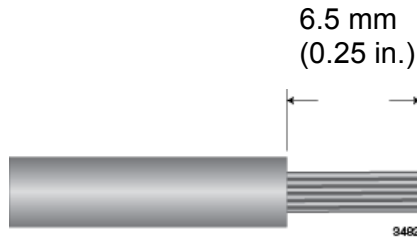

Figure 41. Stripping a Stranded Power Wire
5. Remove 6.5mm (0.25 in.) of insulation from one end of the black RETURN wire. Refer to Figure 41.
7. Remove 6.5mm (0.25 in.) of insulation from one end of the red -48/-60VDC wire. Refer to Figure 41 on page 86.